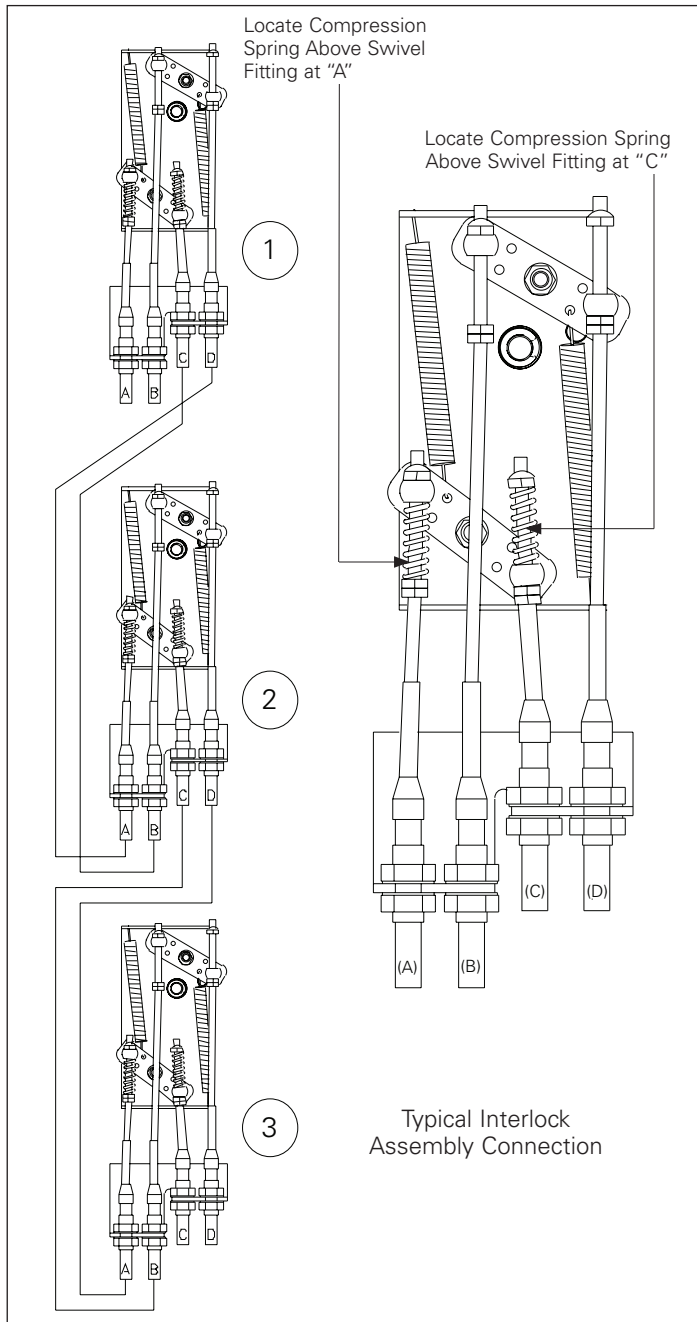

Figure 11. Step 9
Refer to **Table 1** and **Figure 11** for installation details. Routing the cables in this way will allow Breakers **1** and **3** to close independently of each other. Closing Breakers **1** and/or **3** holds Breaker **2** tripped. In addition, closing Breaker **2** will hold BOTH **1** and **3** tripped.
9. If short rod is in Position **A** (see **Figure 11**):
10. If short rod is in Position **C** (see **Figure 11**):